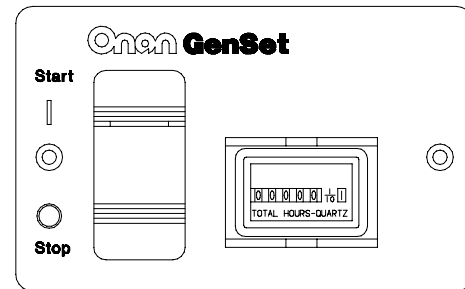

FIGURE 5-5. REMOTE SWITCH / HOUR METER
- Remote switch / status lamp and hour meter (Figure 5-5).